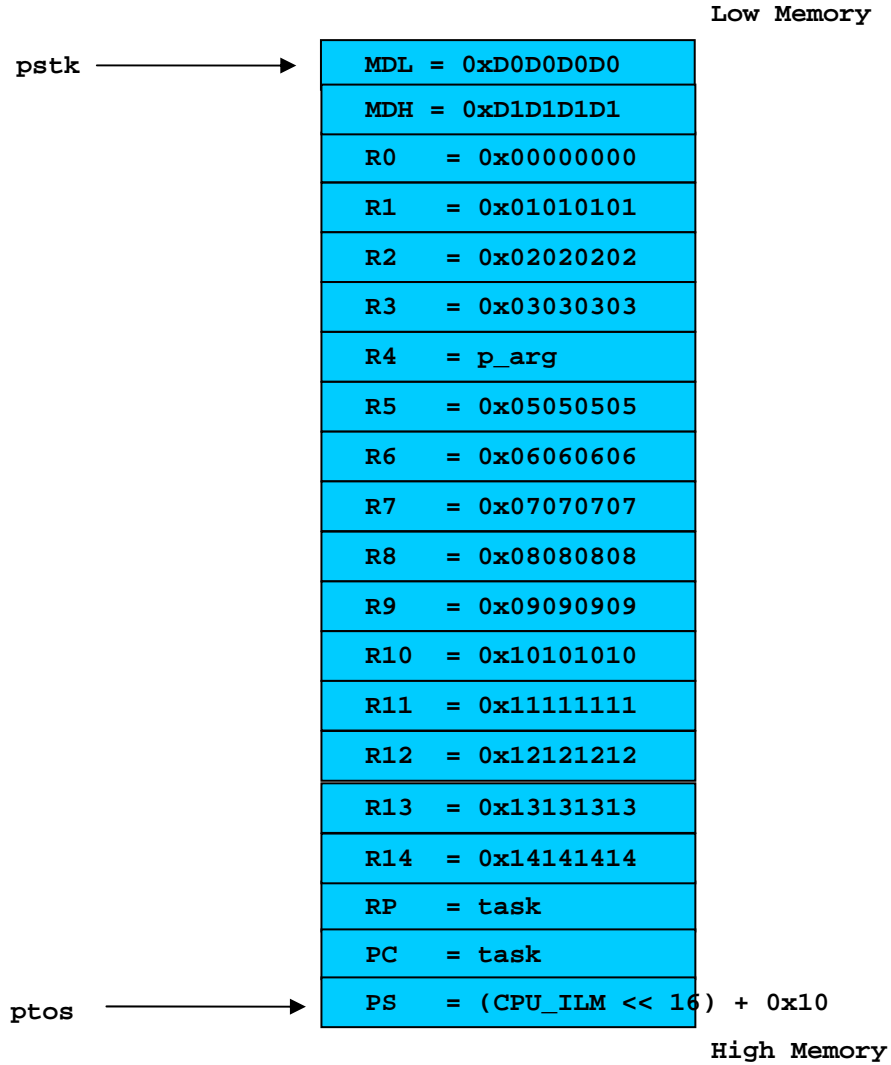

Figure 3-1, The Initial Stack Frame for each Task.
Figure 3-1 shows how the stack frame is initialized for each task when it's created.
- L3-18(1) Before starting the highest priority task, we call OSTaskSwHook() in case a hook function has been declared (see OS_CPU_C.C).
- L3-18(2) The μC/OS-II flag OSRunning is set to TRUE indicating that μC/OS-II will be running once the first task is started.
- L3-18(3) We then get the pointer to the task's top-of-stack (was stored by OSTaskCreate() or OSTaskCreateExt()). See figure 3-1 (pstk is stored in the OS_TCB of the created task).
- L3-18(4) We then pop ALL the registers (except the PC and PS registers) from the task's stack. This is done by calling an assembly language macro which is declared in OS_CPU_I.ASM and will be described later.
- L3-18(5) By executing a return from interrupt instruction, the FR pops the PC and the PS register from the stack and thus, the FR will start executing the task's code.